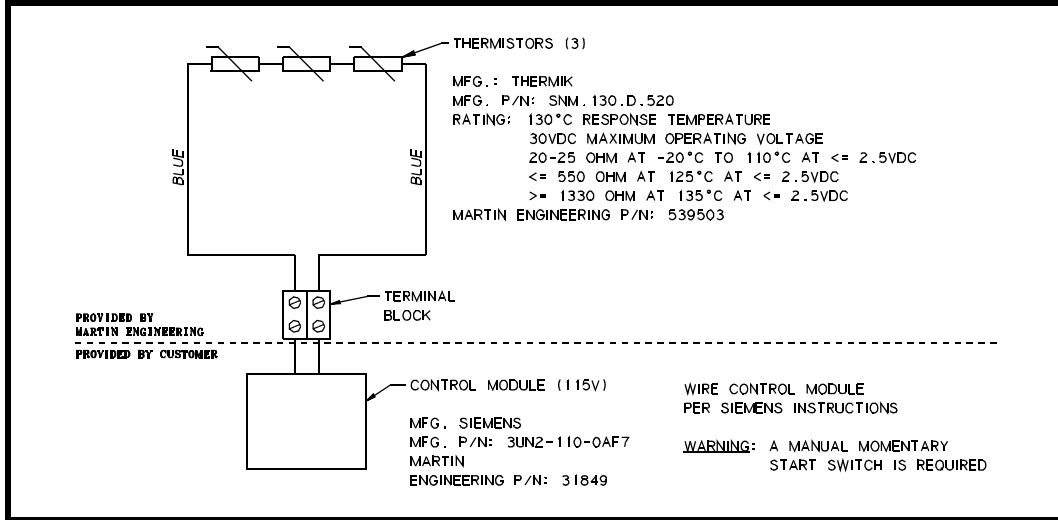

Figure 7. Thermistor Wiring Diagram
- For diagrams 5A and 5B, wire thermistor to control module in accordance with Figure 7. (Martin Engineering recommends using the control module shown in Figure 7, but other suitable control modules may be used.)